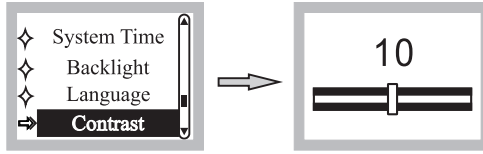

Fig. 21
(6) Changing LCD Contrast, Fig. 21.